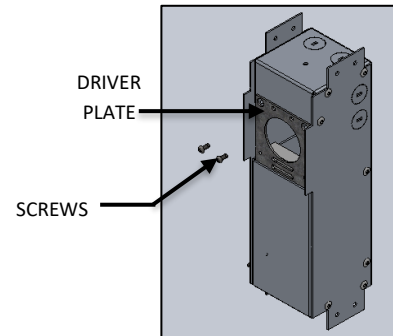

FIG. 11- DRIVER PLATE DISASSEMBLE
3. Remove the SCREWS securing DRIVER PLATE, and slide DRIVER PLATE out of J-BOX as shown in FIG. 11.